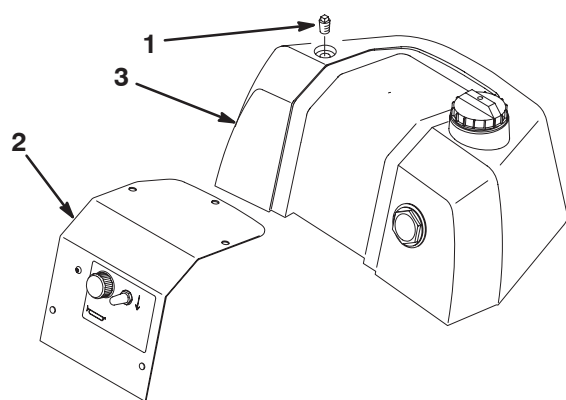

Figure 2
3. Remove the pipe plug from the top of the auxiliary tank (Fig. 2).
8. Remove the 5 capscrews and washers securing the cover plate to the auxiliary hydraulic tank (Fig. 2). Remove the cover from the tank.